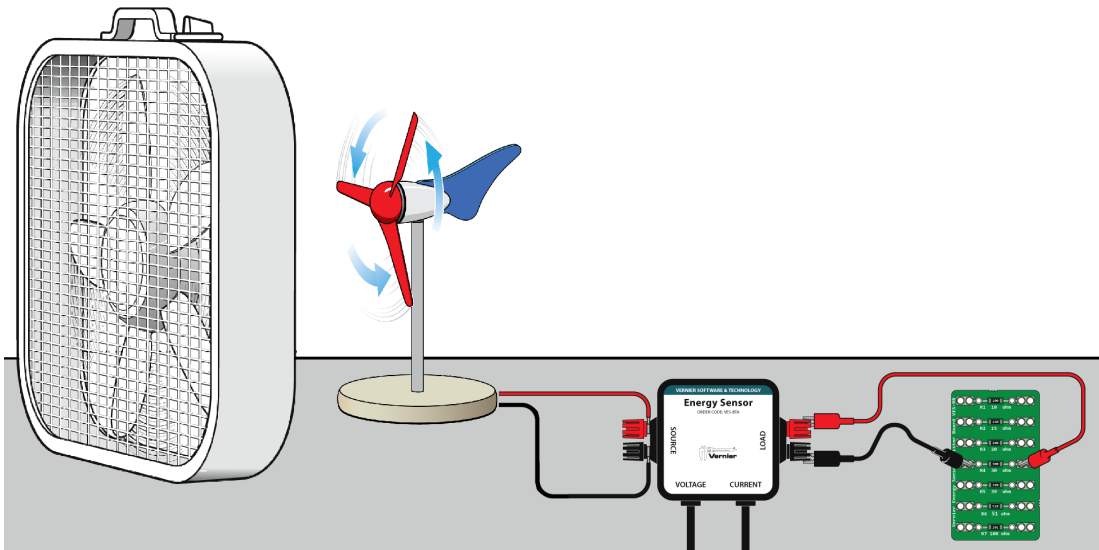

Figure 1
- a. Assemble the turbine with the Red Blade Set (see Figure 1).